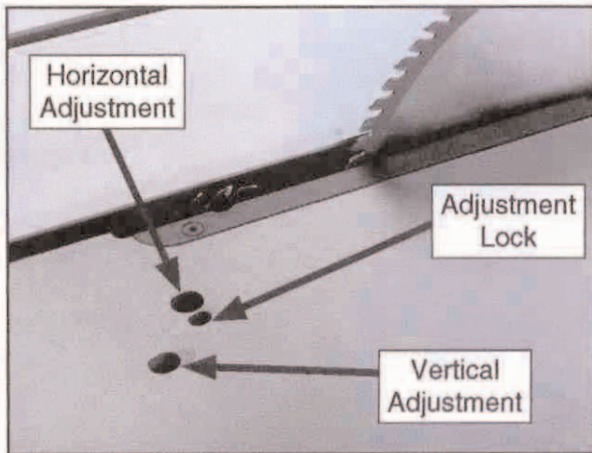

Figure 40. Scoring blade adjustment controls.
3. Unlock the scoring blade adjustment using a hex wrench in the adjustment lock socket (Figure 40) and raise the blade to its highest point using a hex wrench in the vertical adjustment socket.